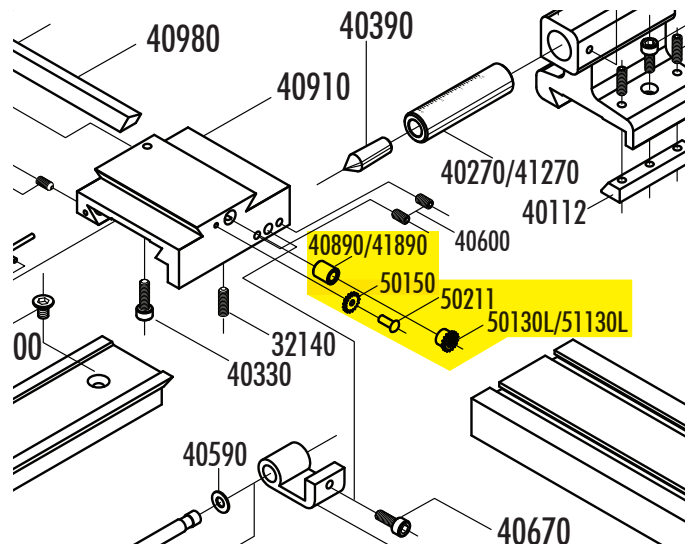

FIGURE 2—The component part numbers in this exploded view are highlighted in yellow for your reference.
2. The slide nut (P/N 40890/41890) is loose, and it is being pulled out of the saddle (see Figure 2).